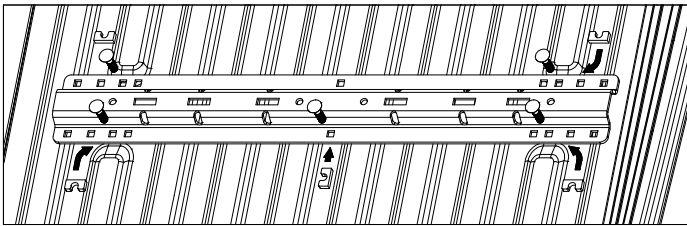

Figure E1: View looking into truck bed from the tailgate.
1. **The rear mounting rail.** Re-position the rear mounting rail over the drilled 9/16" holes in the bed. Place a 3/8" U-shaped spacer where needed between the bed and the mounting rail. Next, place a 1/2" x 2" carriage bolt through the mounting rail and into each of the five drilled locations, see Figure E1. Under the bed place a 3/8" U-shaped spacer where needed between the bed and the side plate flanges. Attach each of the carriage bolts with an offset rectangle washer, lock washer, and nut. Hand tighten each nut.